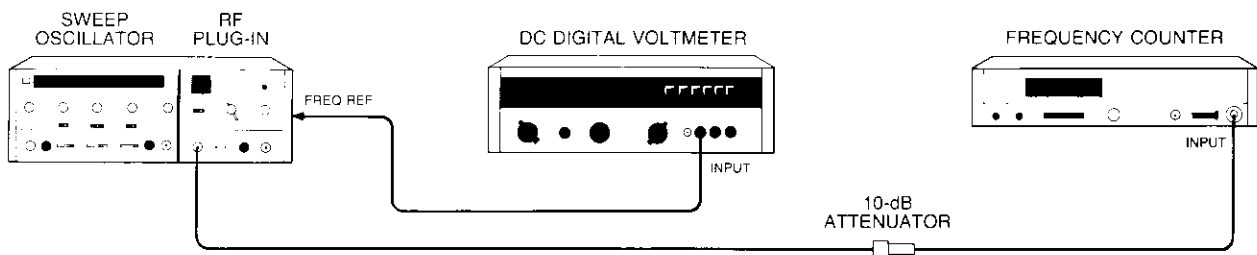

Figure 4-21. Frequency Reference Output Test Setup
- a. Connect equipment as shown in Figure 4-21.